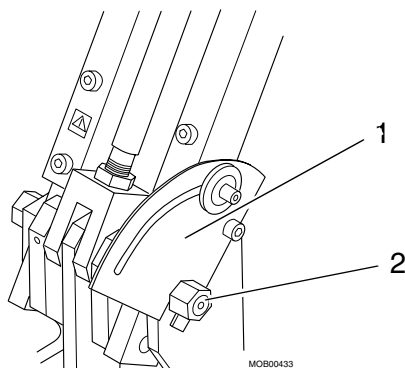
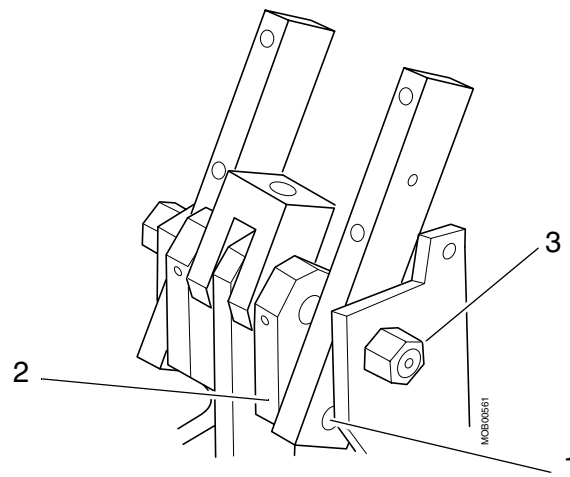

Fig. 25 Brake disc
Fig. 39 Mounting arm support
35. Loosen the screw slightly (pos. 2 / Fig. 25) to remove the brake disc (pos. 1 / Fig. 25).
6. Attach the new right arm support to the lower arm link by fitting the shaft (pos. 1 / Fig. 39) into the link (pos. 2 / Fig. 39).
7. Mount the right arm support with the screw (pos. 3 / Fig. 39). Remember to insert the spacer-washer. Remember to leave a small gap for the brake disc (Fig. 25).